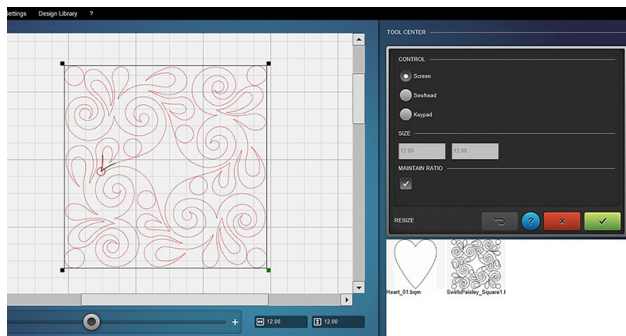

Fig. 23
1. Select Screen under Control. Four corner points will appear around the design (Fig. 23); the lower-right node is the green active node. To select a different node as the resizing point, touch and hold (or right-click) on the desired node until it turns green.
4. Confirm with the green check mark (Fig. 23).